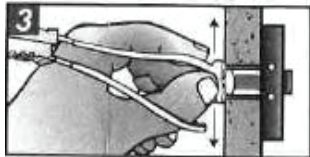

Figure 4.3.2
4.3.2 With one hand, pull rign so metal channel rests flush behind the cab shell. Slide plastic cap with other hand until flange of cap is flush with wall panel as shown in **Figure 4.3.2**.